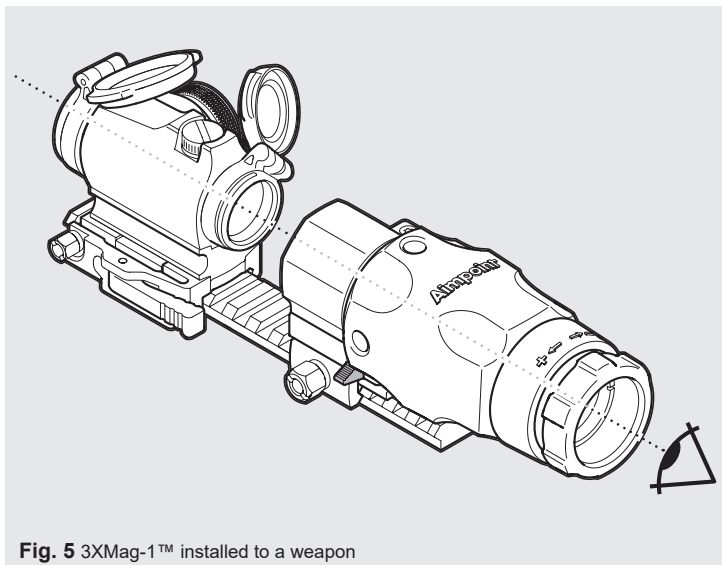

Fig. 5 3XMag-1™ installed to a weapon
- The optical axis height of the magnifier and the sight must coincide as shown in Fig. 5.
- Assemble the magnifier to the mount following the manufacturer's instruction. Orient the magnifier with the screws for centering (1) positioned as shown in Fig. 5.